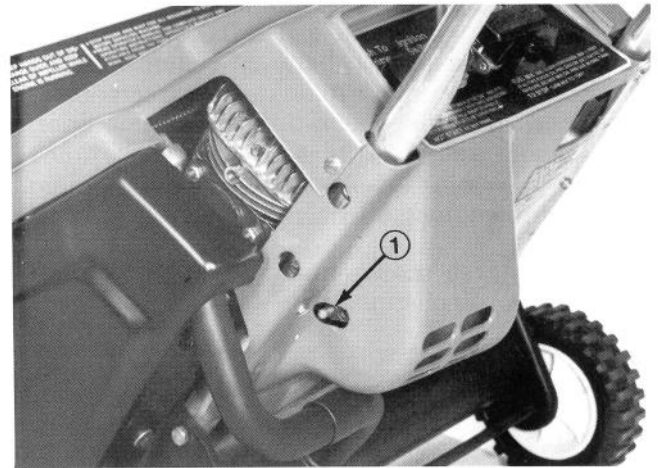

Figure 19
1. Mixture Adjustment Screw (Fig. 19) — Close screw by gently rotating it clockwise until a slight seating resistance is felt. Next, rotate mixture adjusting screw 1-1/4 turns counterclockwise.